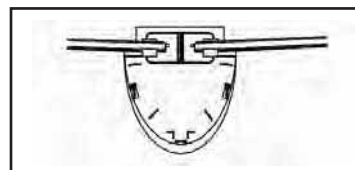

Fig. 34
- B) The four 39" bottom rails are for the "corners." One side snaps into the straight side connector on the final straight side upright, while the other side slides into a bottom plate or bottom cuff as shown in Fig.33 or Fig.34.